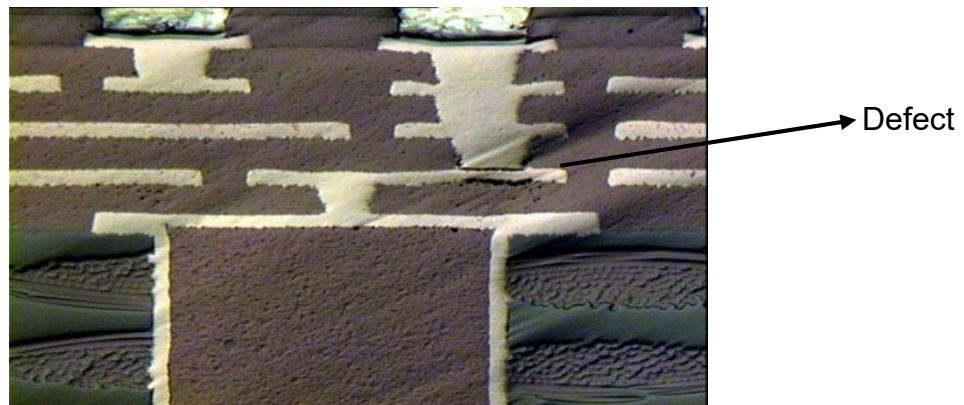

Figure 2: Cross section of the substrate showing the defect at the stack via structure
- (b). Figure 2 shows the defect that can compromise the reliability and performance of electronic packaging substrates, particularly in high-density and multi-layer packaging.